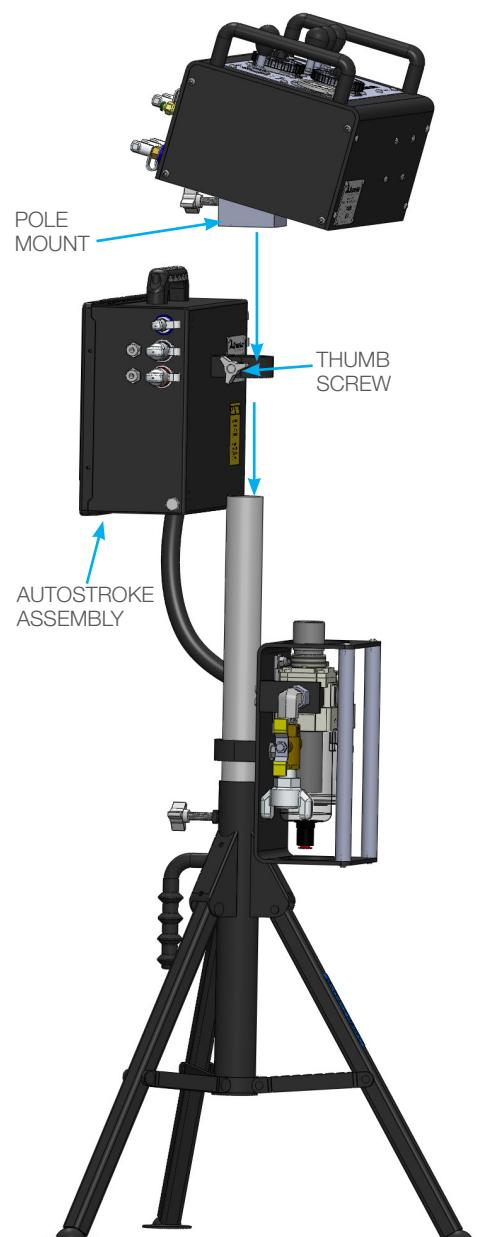

FIGURE 2
2. Slide the AutoStroke Assembly onto the Mounting Pole, with the Decal side facing away from the FRL. Then hand tighten the Thumb Screw. Then slide the Control Assembly back onto the Mounting Pole. Then hand tighten the Thumb Screw to secure the Control Assembly to the Mounting Pole. (**Figure 2**)
2. Connect the LONG 1/4" I.D. Hose to the fitting marked "CLAMP" on the right side of the AutoStroke and the opposite end to the "CLAMP" fitting on the ABX-3L or ABX-3L-V2. Insert the ends of the 1/4" BLACK and RED tubing into the press lock fittings on the right side of the AutoStroke. Push the opposite ends of each tube into the color labeled, press lock, fittings on the manifold atop the ABX-3L or ABX-3L-V2. Connect the BLACK and RED 1/2" lines to the right side of the AutoStroke marked "Forward" and "Reverse" and connect the opposite ends to the manifold on the ABX-3L or ABX-3L-V2. (**Figure 2 & 3**)